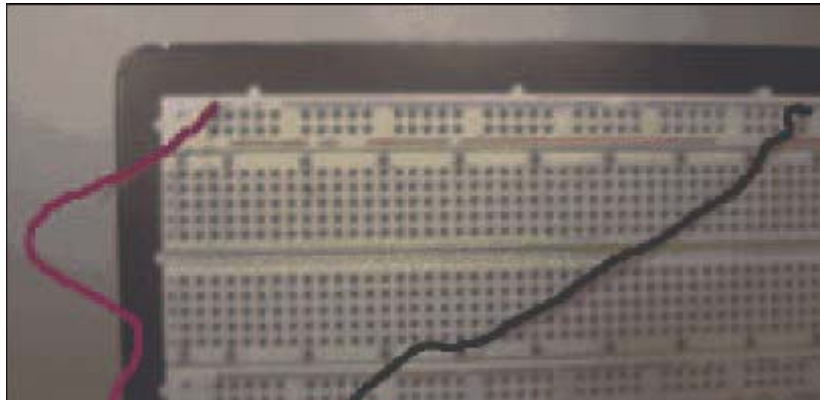

Figure 15
- c. Repeat part (a) for figure 15.